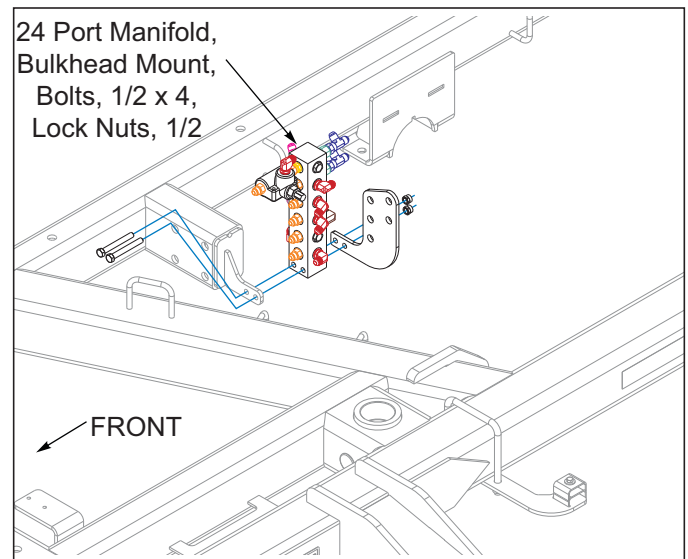

Figure 3-8: 24Port Manifold 7531-32'-35'
4. Models 7531-32'-35' install the 24 port manifold, bulkhead mount in position shown, **See Figure 3-8**, using 1/2 x 4 bolts and 1/2 lock nuts.